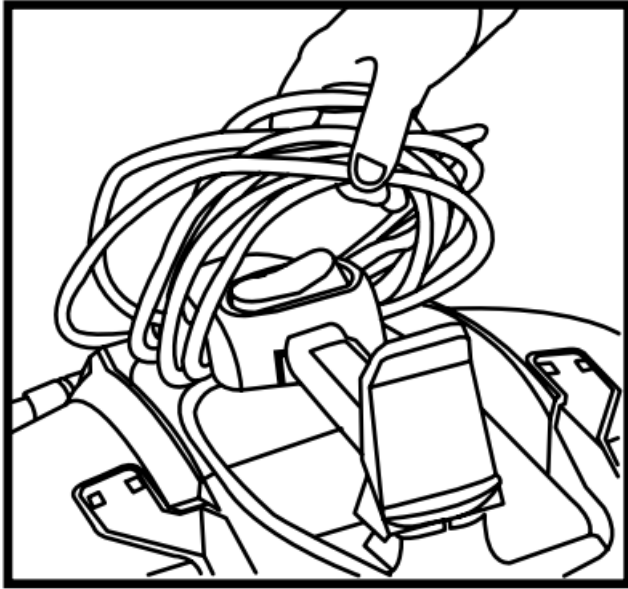

FIGURE 33
55. Grasp the entire cord behind the handle and pull above the rear cord wrap, pull cord towards the front of the vac until the cord becomes disconnected from the front cord wrap. **FIGURE 33.**